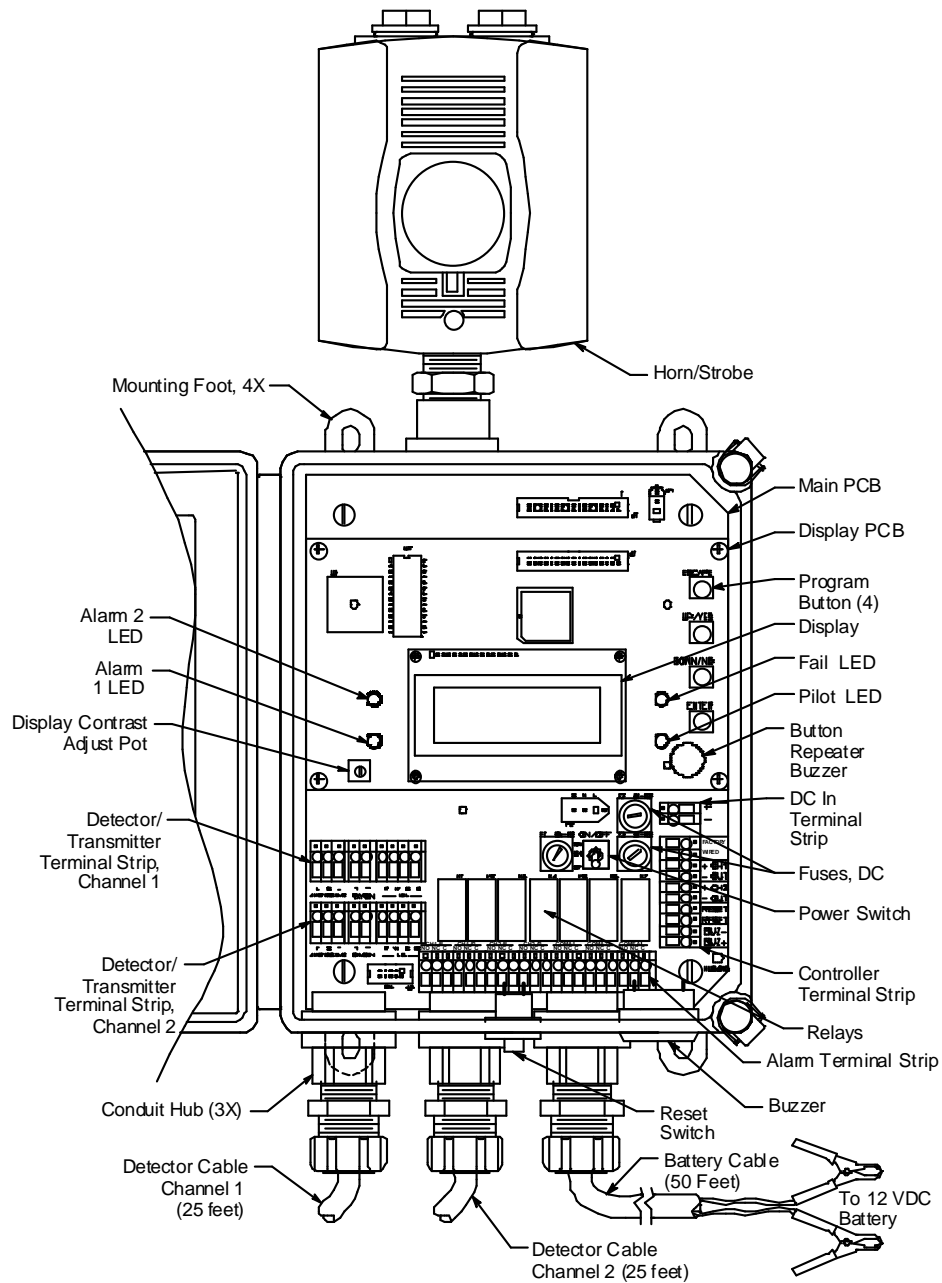

Figure 1. Beacon 200 Rig Monitor Component Location
- **Detector/Transmitter Terminal Strips.** Two detector/transmitter terminal strips are located near the bottom left corner of the main circuit board (see Figure 1). These two 9-point terminal strips facilitate wiring connections to the detectors. Only one detector head at a time may be wired per channel. The top terminal strip is for channel 1 and the bottom terminal strip is for channel 2. The H₂S detectors are factory wired to these terminal strips.
- **Alarm Terminal Strip.** The alarm terminal strip is located along the bottom edge of the main circuit board (see Figure 1). This 21-point terminal strips facilitates wiring connections to external alarm devices (horn, strobe, etc.). Terminals are provided for individual channels as well as common alarm relay contacts. The horn/strobe is factory wired to this terminal strip.
- **Controller Terminal Strip.** The 10-point controller terminal strip is near the lower right edge of the main circuit board (see Figure 1). The controller terminal strip facilitates various internal and external wiring connections. Table 3 lists the function of each terminal.
- **DC In Terminal Strip.** The DC in terminal strip is a 2-point terminal strip located above the controller terminal strip (see Figure 1). It facilitates wiring from the 12 VDC battery. The 50 foot battery cable is factory wired to this terminal strip. Table 4 lists the function of each terminal.
- **Channel relays.** The four channel relays are above the alarm terminal strip (see Figure 1). These relays are dedicated to specific channels and alarm levels.
- **Common relays.** The three common relays, alarm 1, alarm 2, and fail, are to the left of the controller terminal strip (see Figure 1). These relays are common for both channels.
The power switch is located above the relays and to the left of the DC fuses (see Figure 1). The power switch turns the incoming DC power source on and off at the Rig Monitor. When the switch is up, the power switch is on.